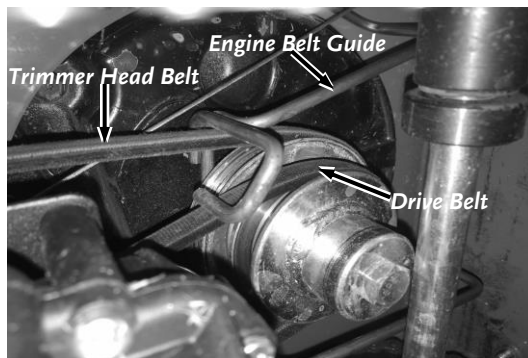

Figure 34
- Note:** Ensure that the Belts are positioned properly in reference to the Belt Guides (**Figure 34**).